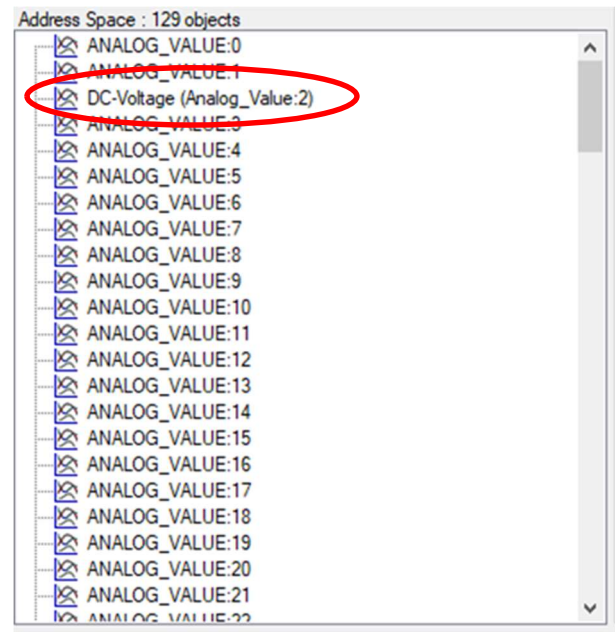

Figure D4
10. In the box below on the left side of the screen all the drive's objects should populate. See Figure D4.